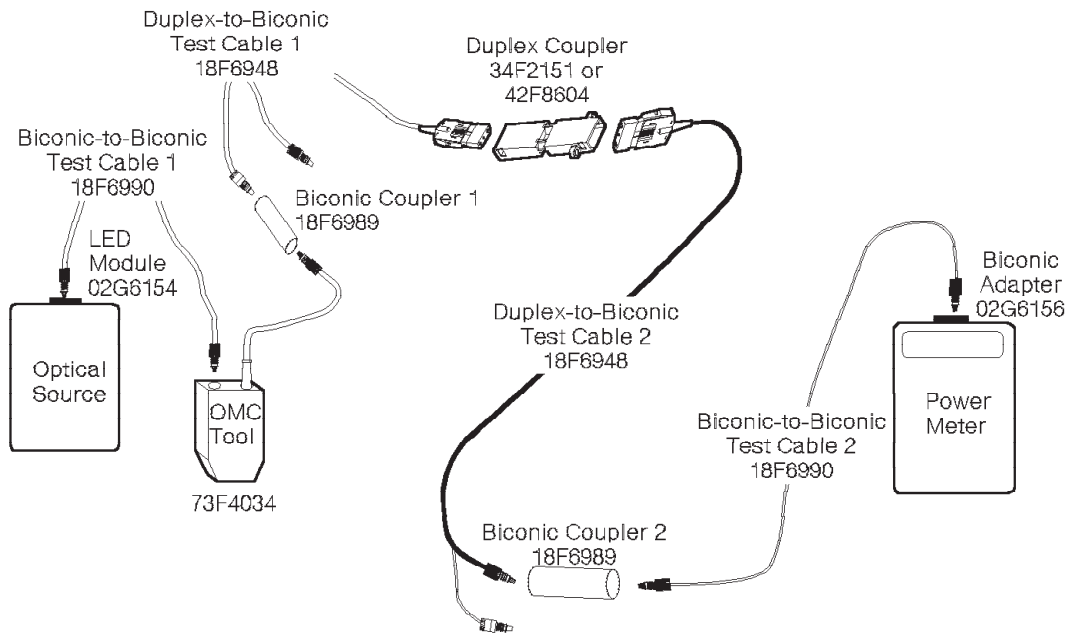

Figure 3-14. Obtaining **P2** for a Multimode Link
2. Make sure all connectors are clean; then assemble the components (see Figure 3-14 on page 3-34).